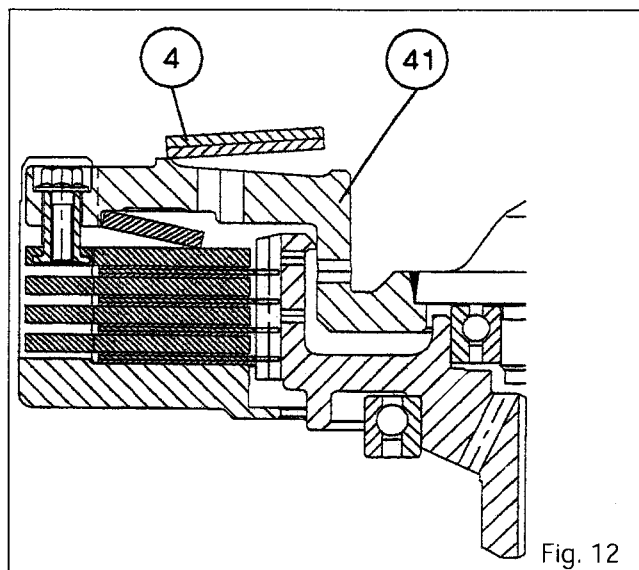

Fig. 12
53. Assemble Belleville springs (4) by applying miscible grease on three locations. Properly align Belleville springs with "D" mating surface center (Fig. 12).